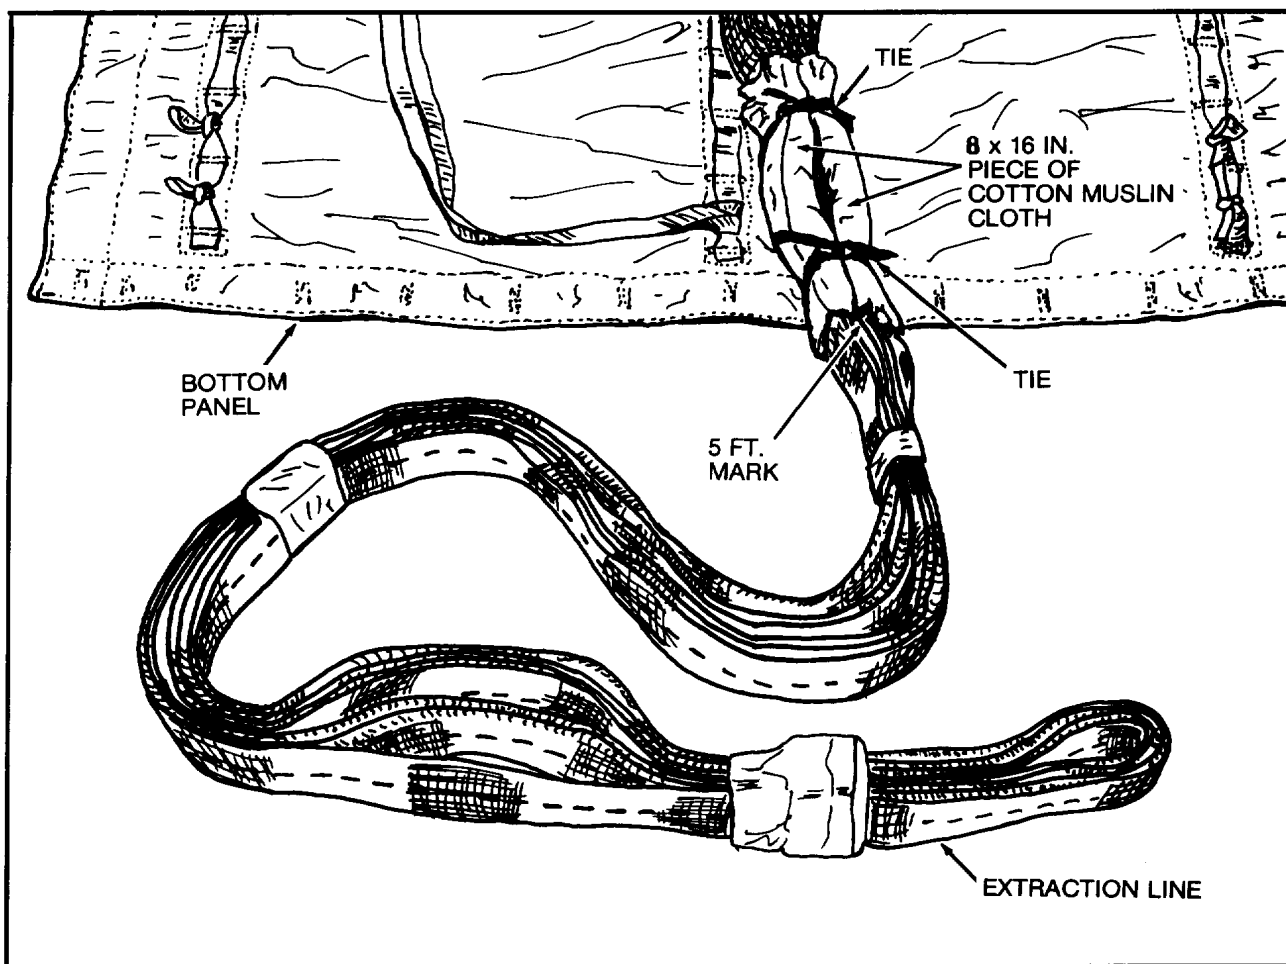

Figure 2. Extraction Line Separated into Two Groups of Three Plies and Wrapped with Cloth.
- a. Separate extraction line into two groups of three plies each and wrap each group with piece of 8 x 16 inch cotton muslin cloth at a point immediately above 5-foot mark on extraction line (figure 2).